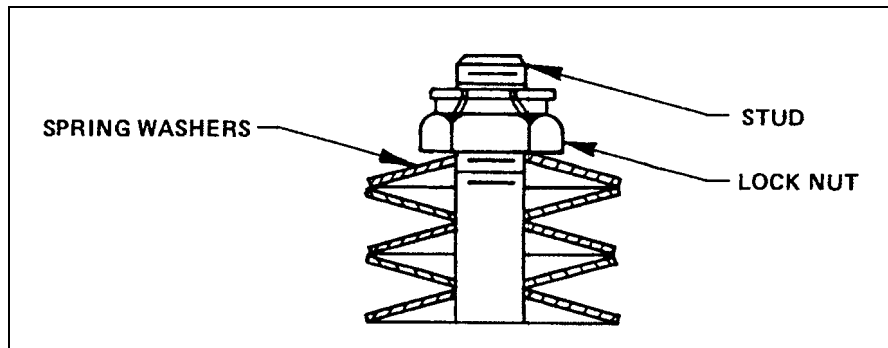

Figure 2 – Spring Washer Stackup
2. Slide the flat washer down the plug stem stud, then install the spring washers as shown in Figure 2.